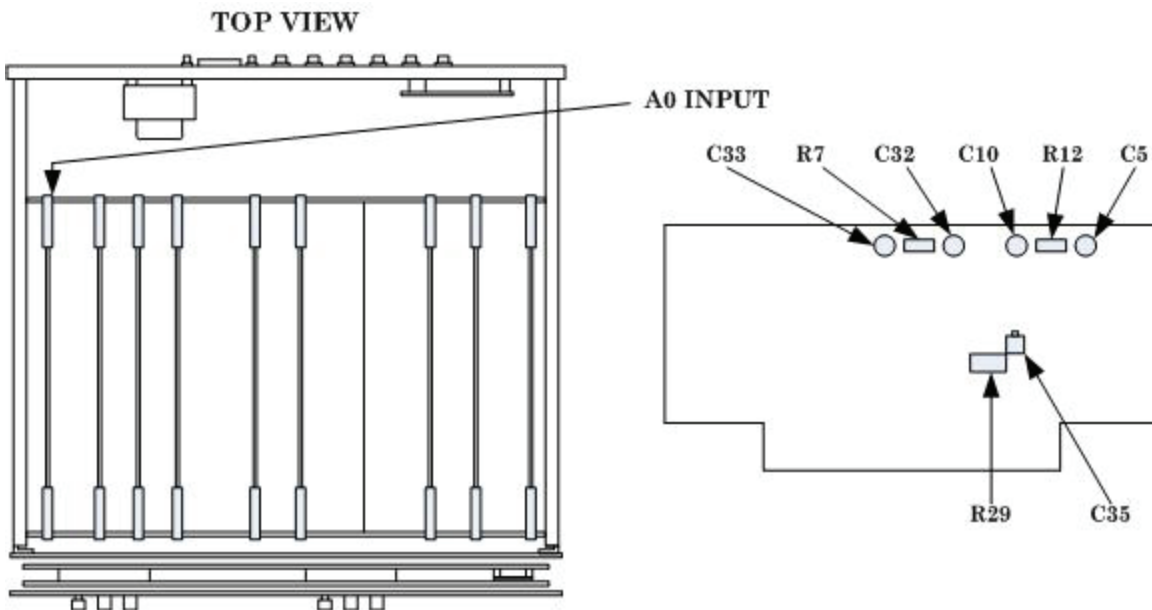

Figure 3. Input board - adjustment locations.
- (2) Connect **TI OUTPUT HIGH** to **INPUT HIGH** and **LOW** using tee connector and two cables.
- (3) Press keys and enter values using **DATA ENTRY** keys as listed in (a) through (g) below:
- (4) Adjust spectrum analyzer controls to observe a 1 kHz signal.
- (5) Alternately adjust A0R29 and A0C35 (fig. 3) for minimum indication on spectrum analyzer (R).
- (6) Press **SPCL** key and enter **27 ENTER** using **DATA ENTRY** keys. Adjust A0R12 (fig. 3) for minimum indication on spectrum analyzer.
- (7) If <-75 dB was not achieved in (5) or (6) above, then alternately adjust A0C5, A0C10 and A0R12 (fig. 3) for minimum indication on spectrum analyzer (R).
- (8) Press **SPCL** key and enter **26 ENTER** using **DATA ENTRY** keys.
- (9) Adjust A0R7 (fig. 3) for minimum indication on spectrum analyzer (R).
- (10) If <-75 dB was not achieved in (9) above then alternately adjust A0C32, A0C33, and A0R7 (fig. 3) for minimum indication on spectrum analyzer (R).
- (11) Disconnect spectrum analyzer from equipment setup.
- (12) Disconnect TI **OUTPUT HIGH** from **INPUT HIGH** and **LOW**.
- (13) Connect TI **OUTPUT HIGH** to **INPUT HIGH** and connect **OUTPUT LOW** to **INPUT LOW**.
- (14) Press keys and enter values using **DATA ENTRY** keys as listed in (a) through (l) below:
- (15) Adjust A0C5 (fig. 3) for a 100.0 percent indication on TI (R).
- (16) Press **SPCL** key and enter **26 ENTER** using **DATA ENTRY** keys.
- (17) Adjust A0C32 (fig. 3) for a 100.0 percent indication on TI (R).
- (18) Reverse **INPUT HIGH** and **LOW** connections and repeat (13) above.
- (19) Adjust A0C10 (fig. 3) for a 100.0 percent indication on TI (R).
- (20) Press **SPCL** key and enter **26 ENTER** using **DATA ENTRY** keys.
- (21) Adjust A0C33 (fig. 3) for a 100.0 percent indication on TI (R).